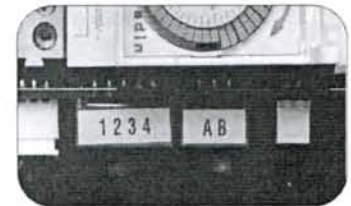
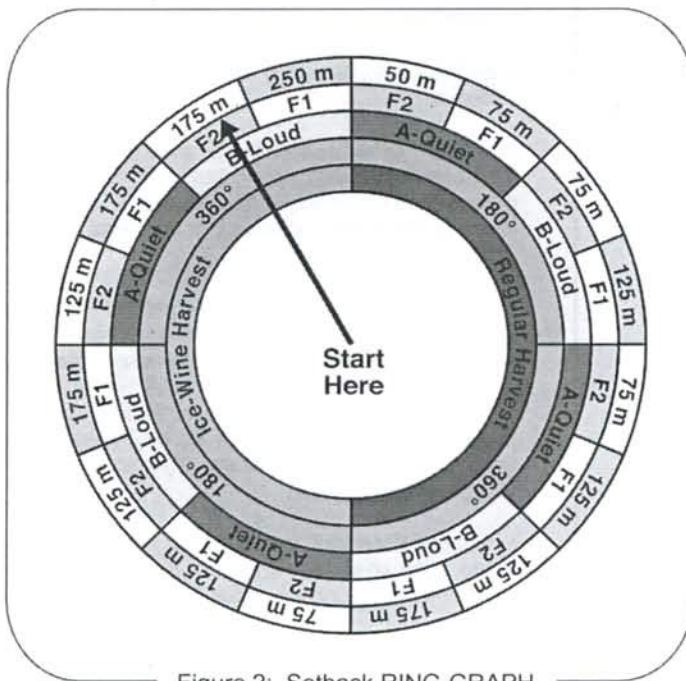

Figure 1
Figure 2: Setback RING-GRAPH
<ul style="list-style-type: none"> <li>• Tell all neighbours living within 175 m (575 ft) of the bird bangers about when and how you plan to operate them, and who to call if there is a problem.</li> <li>• Start using the bird banger no earlier than three to four weeks prior to veraison and stop use immediately after harvest.</li> <li>• Operate bird banger during daylight hours, between 30 minutes before local sunrise and 30 minutes after local sunset.</li> <li>• Use light sensor over-ride devices to make sure the bird banger cannot operate at night, even if timers are adjusted improperly, especially on properties where the farm manager lives off-site</li> <li>• Do not place adjacent bird bangers any closer to each other than 75 m (250 ft).</li> <li>• Adjust timers often enough to account for later (or earlier) sunrise and sunset times throughout the season especially at Daylight Savings Time if bird bangers are still necessary beyond this date.</li> <li>• Where practical on large properties, move bird bangers weekly so birds don't get used to their location.</li> <li>• Do not place bird bangers within a crop row directly in line with a neighbour's house, as the row canopy can channel the sound towards the house.</li> <li>• Adjust tripods so bird bangers are level, firing in all directions and not more often at neighbours.</li> <li>• Monitor bird bangers so they operate properly, especially those not on, or near, your home farm.</li> <li>• Take into account echoing when using bird bangers adjacent and below an escarpment or hilly/mountainous terrain, as it can cause echoing.</li> </ul>	<p>The current BMP setback from neighbours for normal operation of a bird banger is set to 125 m (410 ft) when the bird banger is operated:</p> <ul style="list-style-type: none"> <li>• during the regular growing season, ceasing about the end of October.</li> <li>• with proper leveling of the bird banger so it spins uniformly in all directions.</li> <li>• on Frequency 2 setting (four to eight minutes sequence interval).</li> </ul> <p>The 125 m (410 ft) setback has evolved and worked well for growers and neighbours, but other setbacks also make sense if practices are used that increase sound levels (with greater setbacks), or decrease sound levels (with lesser setbacks).</p> <p>Field tests explored more flexible setbacks with 125 m setback used as a benchmark. It was determined sound levels, and resulting annoyance for neighbours are:</p> <ul style="list-style-type: none"> <li>• increased over ice wine season, as no vegetation is present to muffle sounds, and the long season extends annoyance period. This effectively adds 5 dBA compared to regular season use.</li> <li>• reduced if the bird banger doesn't fire directly at a home. This effectively drops sound levels 5 dBA compared to bird bangers that fire at homes.</li> <li>• reduced if the bird bangers are set on the 'A, quiet volume' setting, which effectively drops sound levels 5 dBA compared to 'B, loud volume' setting (Figure 1).</li> </ul> <p>In order to easily calculate the appropriate “neighbour setback” for your particular farm please refer to the “RING-GRAPH” (Fig.2 ) on the reverse side of this sheet.</p>
**A-Quiet** (Low Volume setting A) **B-Loud** (Full Output setting B) see Fig 1
4. **SHOT FREQUENCY** (See Fig 1)
The Ring-Graph (Fig 2) easily allows a grower to calculate the acceptable setbacks to neighbours for operation of a bird banger in agricultural crops. Start in the centre of the graph and move outward through the layers selecting the conditions and bird banger settings which apply to you. The measurement you arrive at along the outside ring of the chart is the acceptable neighbour setback distance (measured in metres).